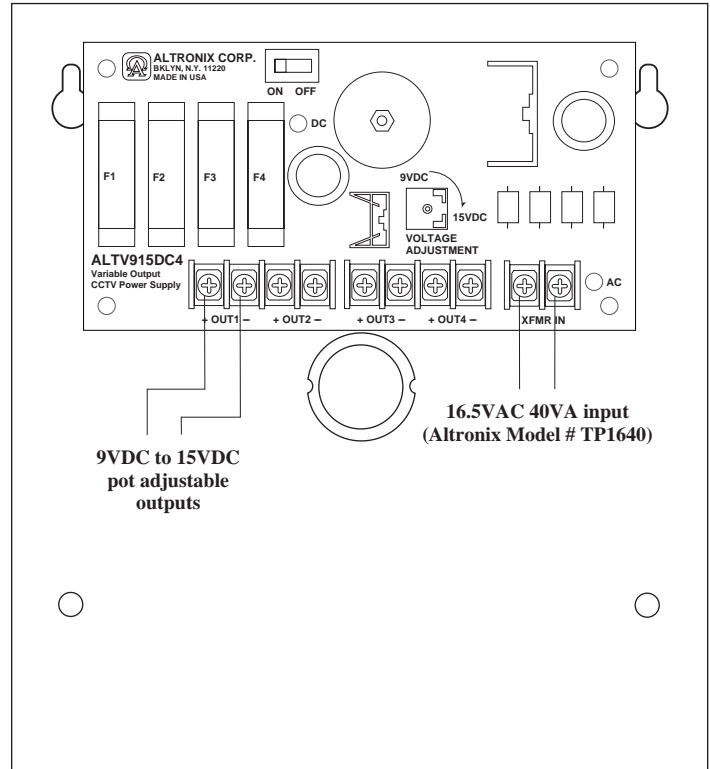

Fig. 1
- Four (4) individually fused protected outputs.
- Output fuses are rated at .5 amps / 250VAC (*Fig. 1*).
- Main fuse is rated at 5 amps / 250VAC (*Fig. 1*).
2. Connect 16.5VAC 40VA (Model TP1640) transformer to terminals marked [XFMR IN] (*Fig. 1*)
4. Switch SW1 (*Fig. 1*) to OFF position.
5. Connect each DC CCTV cameras to terminal marked [+ OUT1 - to + OUT4 -] (*Fig. 1*) carefully observing correct polarity.
6. Switch SW1 (*Fig. 1*) to ON position.